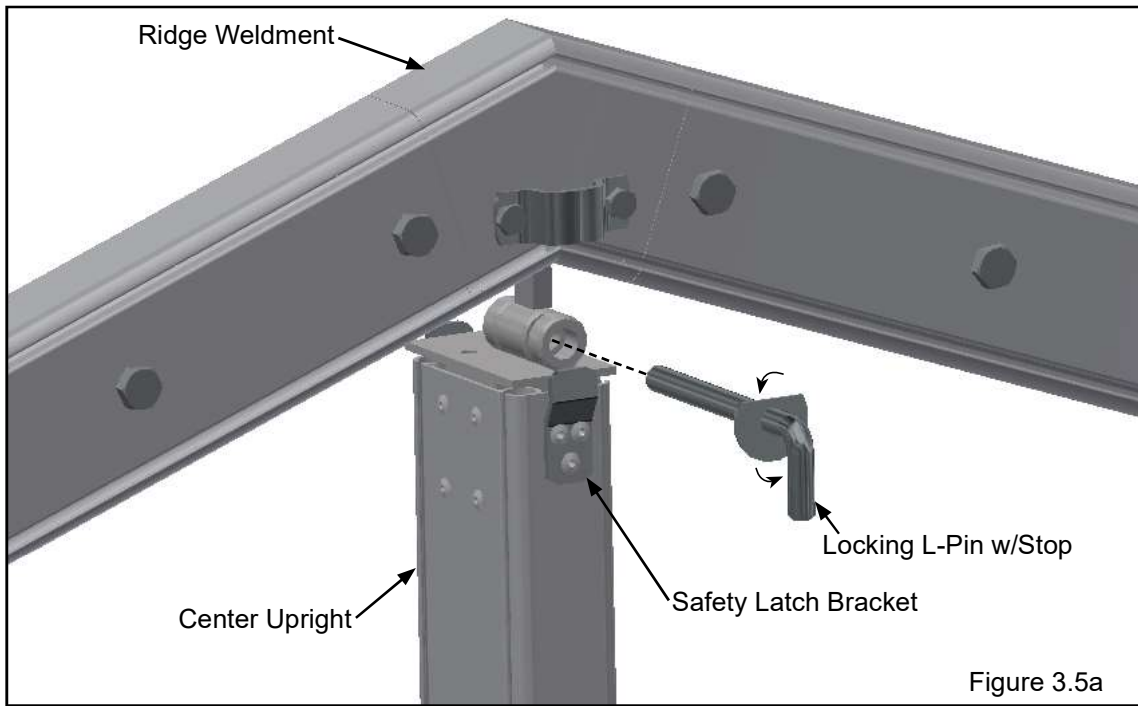

Figure 3.5a
3.5.2 At the Center Uprights, connect the insert weldment at the top of the G.E. Upright to the hinge tube at the bottom of the Ridge Weldment using the Locking L-Pin with Stop. See **Figure 3.5a. IMPORTANT:** Pay attention that the collar on the L-pin is engaged in the safety latch bracket at top of upright.